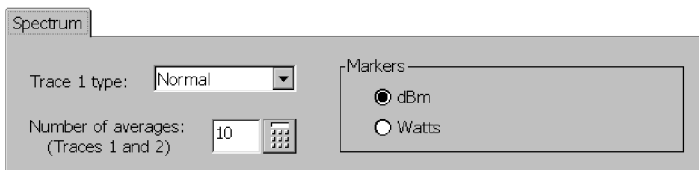

Figure 3-13: Changing Units for Marker Level
2. Tap the **Spectrum** tab. This displays the window shown in Figure 3-13 shows the upper half of the Spectrum tab.